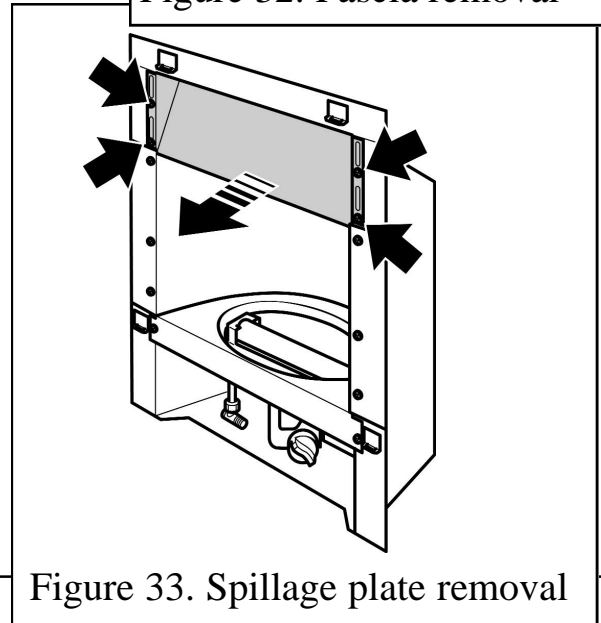

Figure 33. Spillage plate removal
3. Detach the spillage plate from the hotbox by removing the four screws (See figure 33). Place the spillage plate in a safe place away from the work area.